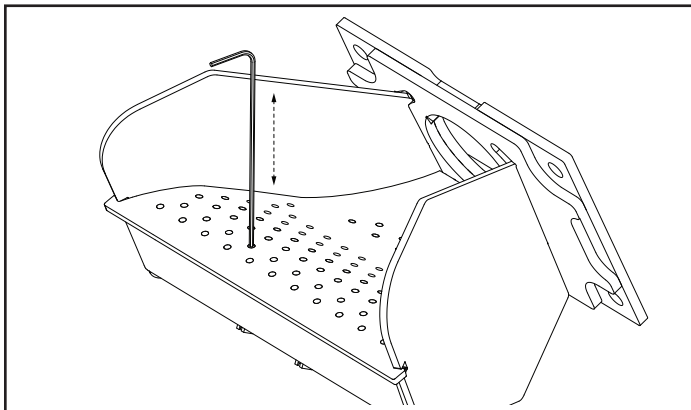

Figure 2.6
- Use the supplied allen wrench to remove any build-up that may have accumulated in the holes of the burn pot grate. Simply push the allen wrench down through each hole ensuring it is clear of any build-up paying attention not to damage the igniter element in the process. Figure 2.6.